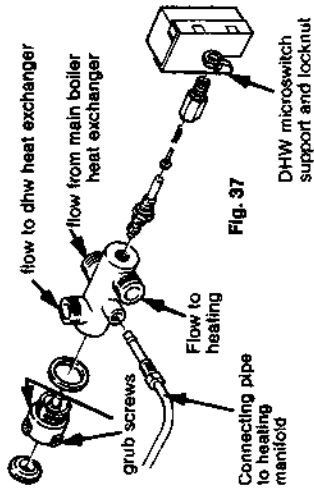

Fig. 37
- 8.16.6 Remove retaining nut (fig 37) and remove micro switch, disconnecting plug to fan slow speed resistor, in the process.
- 8.17.4 Unscrew retaining nut and remove micro switch (fig. 37).